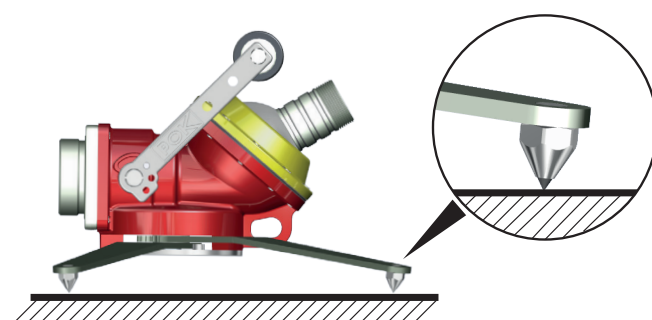

Fig. 3
- **3** - Place the monitor on stable ground, the four pins of the stabilizing legs in contact with the ground (Fig. 3).